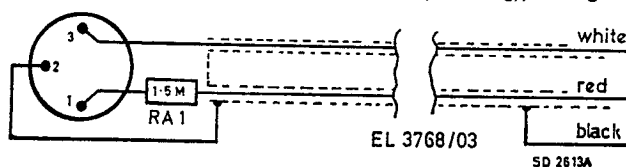

Fig. 1 Radio/Pick-up Connecting Lead
Depress on/off switch 205, and select the required speed and track. The level of recording may be controlled as follows. Depress Record key 207 and adjust the appropriate controls so that the modulation level indicator pointer almost reaches the red section of the scale during the loudest passages. To commence recording, hold the Record key fully depressed, then depress Play key 210. On completion of recording, depress Stop bar 212. When recording from a source other than a microphone, it may be necessary to include some form of attenuation in the connection to avoid overloading the input stages. The lead type EL3768/14 should be used whenever the input source employs a 5-pin DIN diode output socket. On all other occasions, the input signal should be applied to pin 3 or 5 of input socket Skt1, or the lead type EL3768/03 supplied with the recorder should be used. This lead incorporates a series resistor, 1.5MΩ, in the red conductor, but under certain conditions, depending on the amplitude of the input signal, the value of this resistor may be altered to obtain satisfactory recordings. The connections of this lead are: Red—recording input; White—line output; Black—common earth (screening), see Fig. 1.